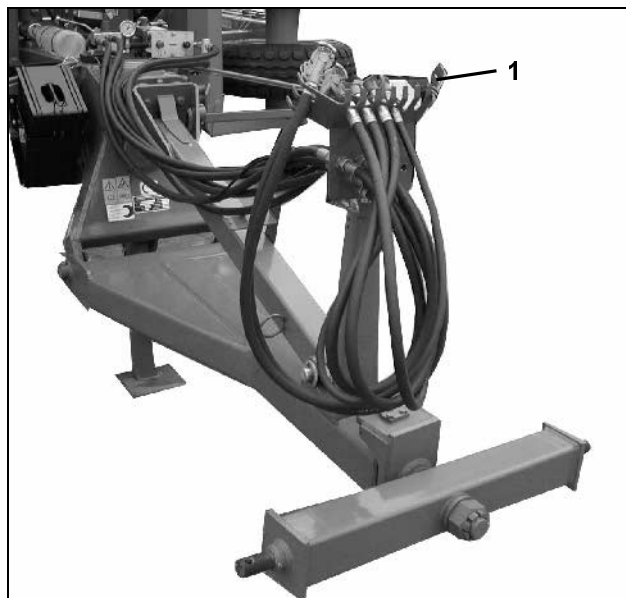

Fig. 16
- Insert the hydraulic hoses in the provided parking kit (Fig. 16/1).